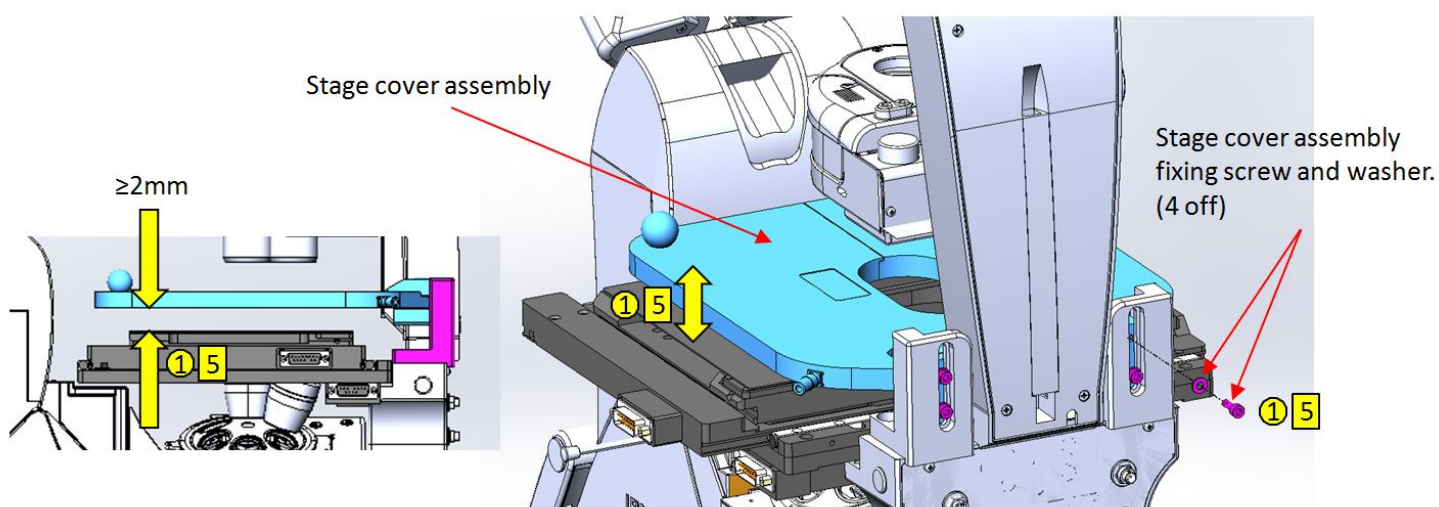

Figure 2: Securing the Stage Cover Assembly
5. Back the stage cover fixing screws off slightly (Figure 2) and carefully lower the stage cover until it is approximately 2mm above the stage. Retighten the stage cover fixing screws